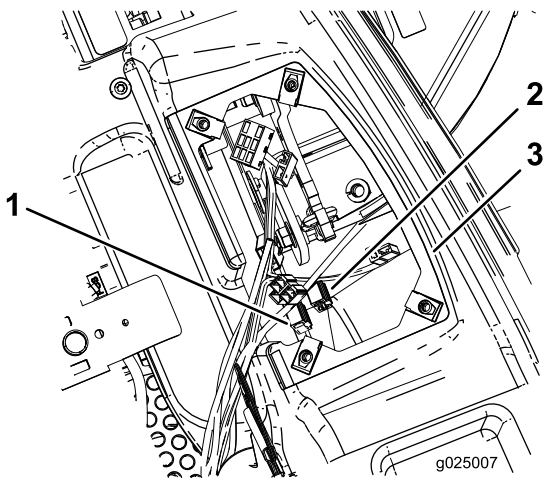

Figure 15
6. For 2014 and newer models, install the 15A fuse into the open accessory slot (Figure 15).